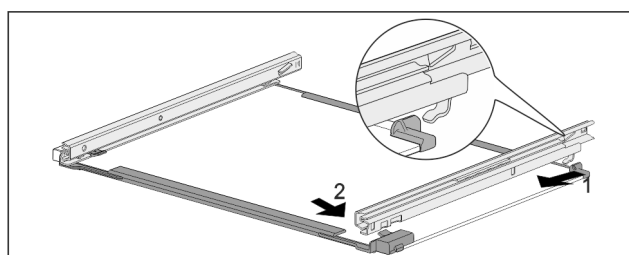

Fig. 106 Glass shelf with rails
- Hook in rail at the back. Fig. 106 (1)
- Hook in rail at the front. Fig. 106 (2)